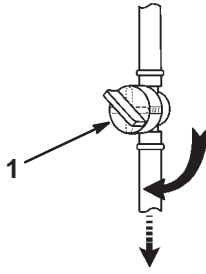

Figure 9
1. Open the fuel shut-off valve located between the fuel tank and the engine (Fig. 9).